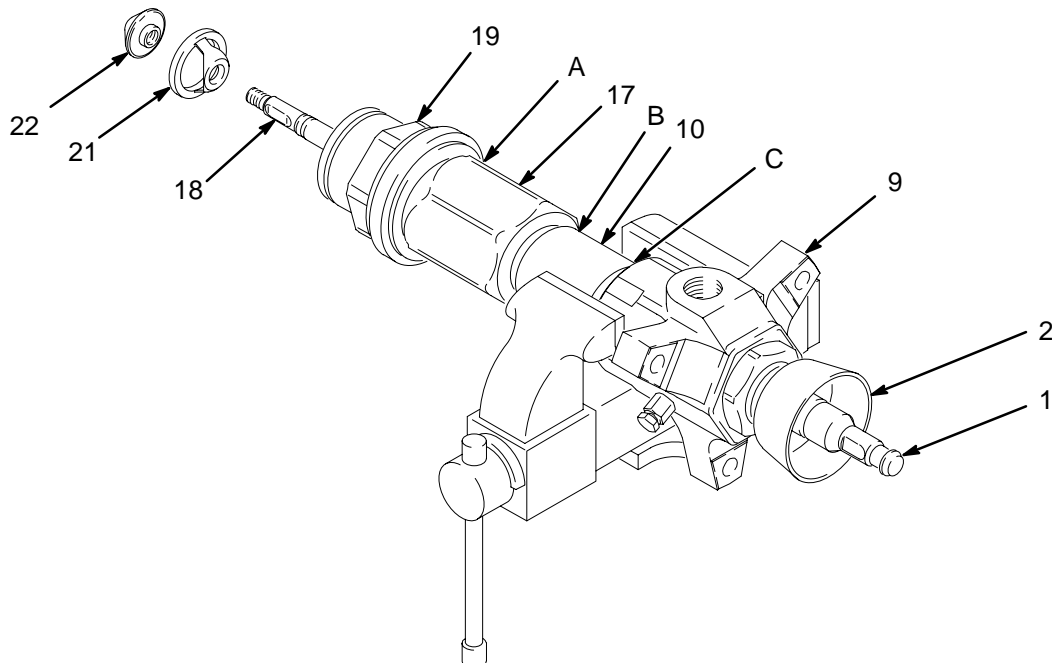

Fig. 7
1. Remove the displacement pump from the air motor as explained on page 14. Place the pump in a vise, with the outlet housing (9) positioned as shown in Fig. 7.
2. Hold the flats of the priming piston rod (18) with an adjustable wrench, and use a second wrench to unscrew the priming piston seat (22) from the rod. Slide the priming piston (21) off the rod. Inspect the inner and outer surfaces of the piston (21) for scoring, wear, or other damage.
3. Loosen the packing nut (2) using the wrench (109) order separately.
4. Using a pipe wrench on the hex of the intake cylinder (19), unscrew it from the intake valve housing (17). The pump may separate at joints A, B, or C. See Fig. 7.